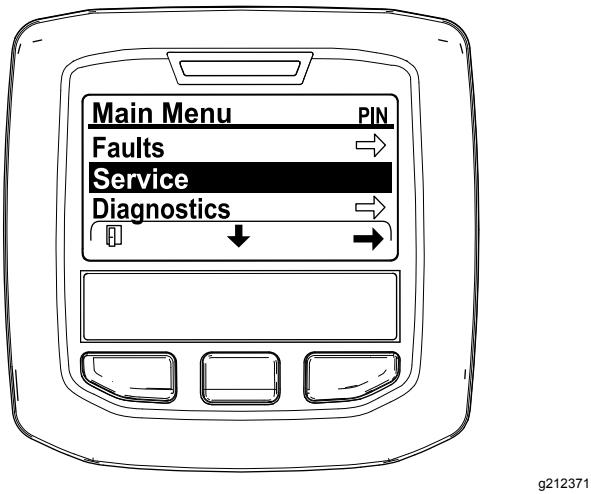

Figure 45
- Navigate to the MAIN MENU, press the center button to scroll down to the SERVICE MENU, and press the right button to select the SERVICE option (Figure 45).